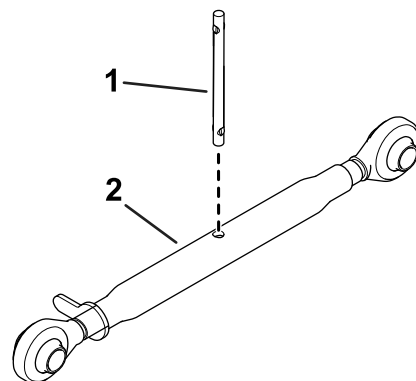

Figure 6
1. Install the rod to the top link (Figure 6).